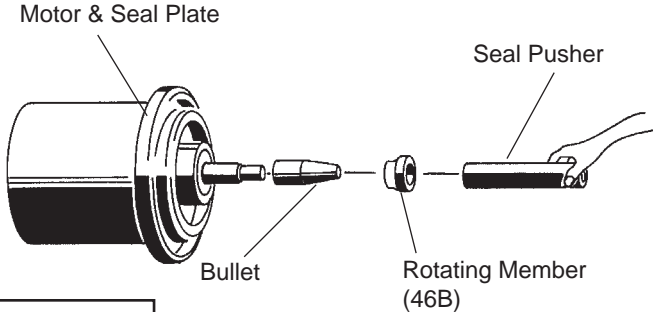

FIGURE 5
Slide retaining ring (46d) over shaft and let rest on bearing (47). Place spring (46c) over shaft and let rest on retaining ring (46d). Lightly oil (**DO NOT use grease**) shaft, bullet and inner surface of bellows on rotating member (46b), (See Figure 5), with lapped surface of rotating member (46b) facing outward, slide over bullet and onto shaft using seal pusher, making sure spring (46c) is seated in retaining ring (46d) and spring (46c) is lined up on rotating member (46b) and not cocked or resting on bellows tail.